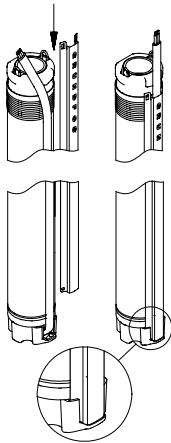

Fig. 6 Placing the cable guard
2. Place the cable guard in the groove in the cable plug. The two flaps must engage with the upper edge of the pump sleeve, see fig. 6.